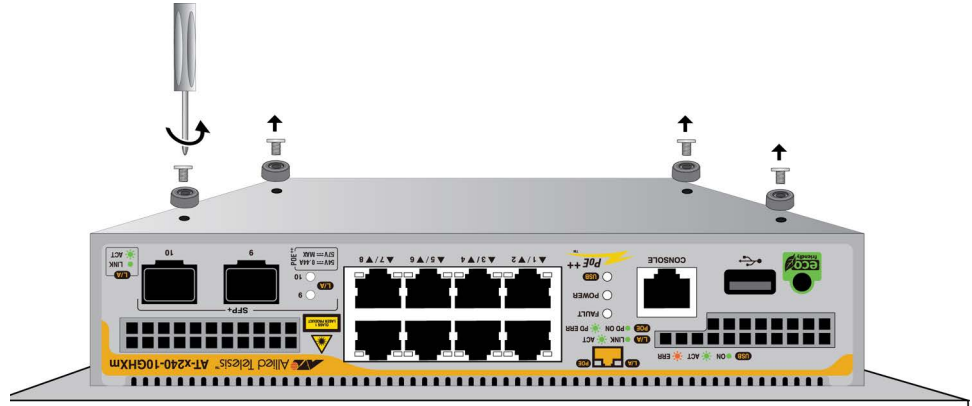

Figure 39. Removing the Bumper Feet from the Bottom Panel of the Switch
5. Use a cross-head screwdriver to remove the bumper feet from the switch. Refer to Figure 39.
- ❑ If bumper feet are attached, remove the. Refer to Figure 39 on page 67.